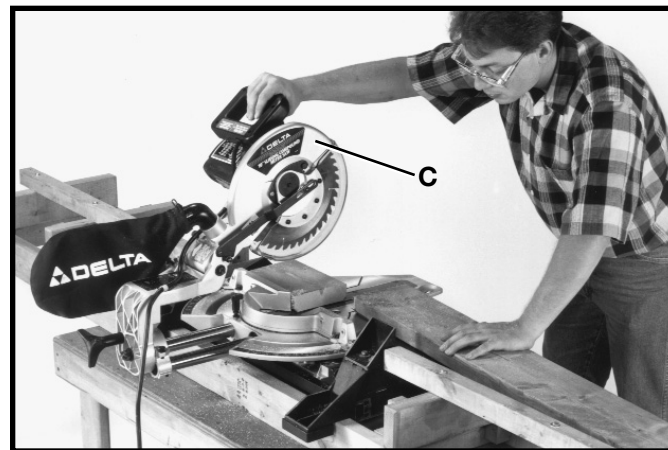

Fig. 78
6. After the blade has stopped, raise the cuttinghead (C) to the up position, as shown in Fig. 78.